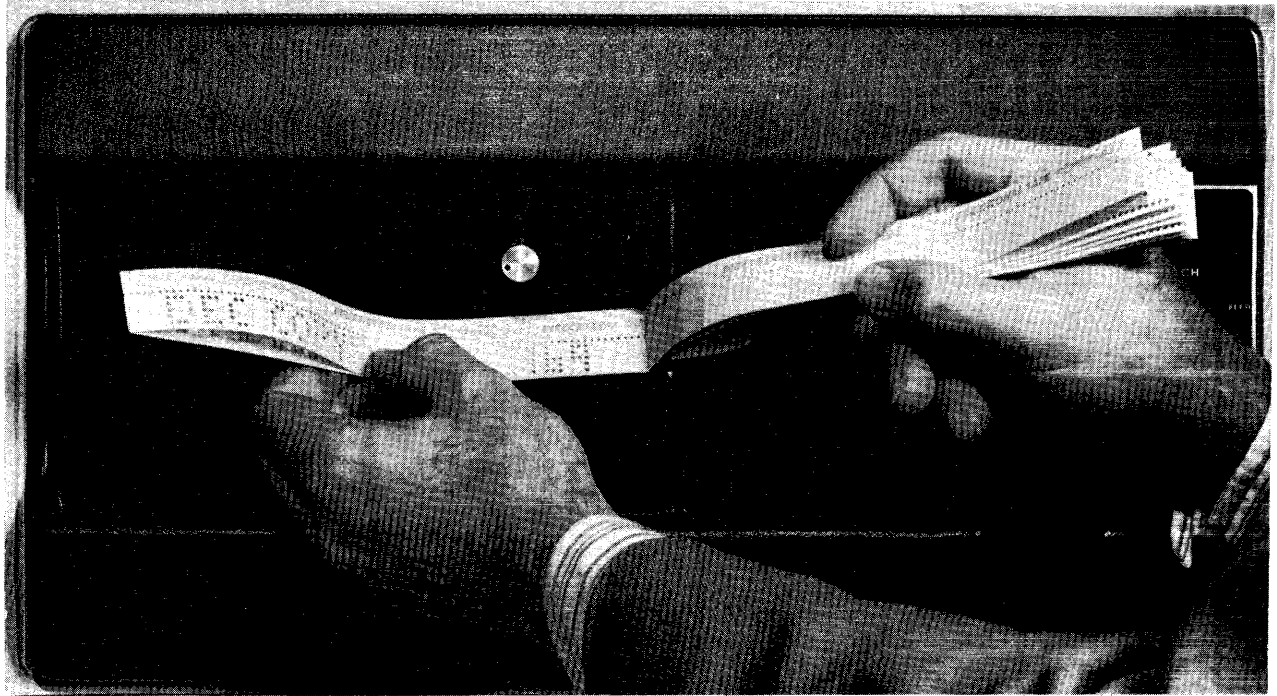

Figure 4-5a Installing Tape in Paper Tape Reader
6. Place the lower end of the packet diagonally into the corner of the lower feed pocket, as shown in Figure 4-5a.